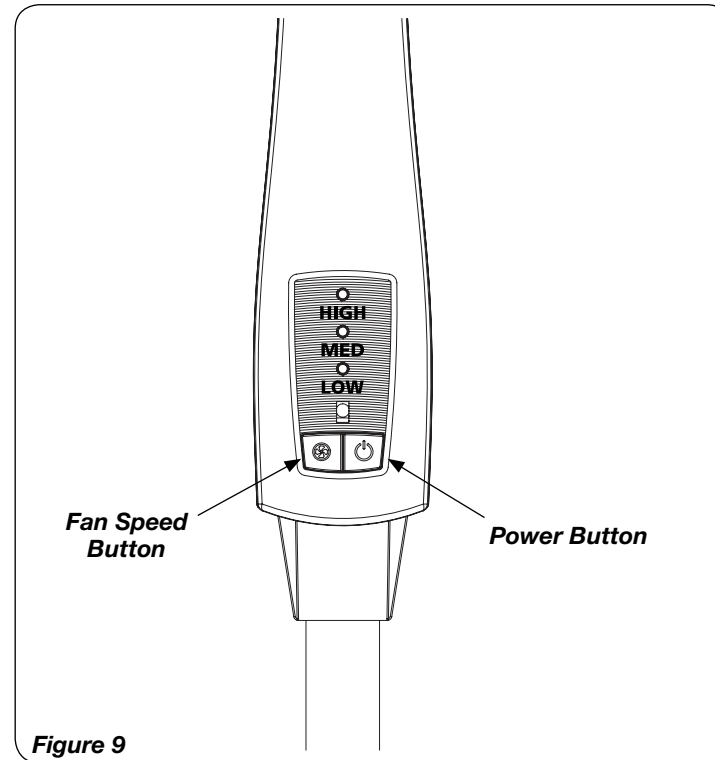
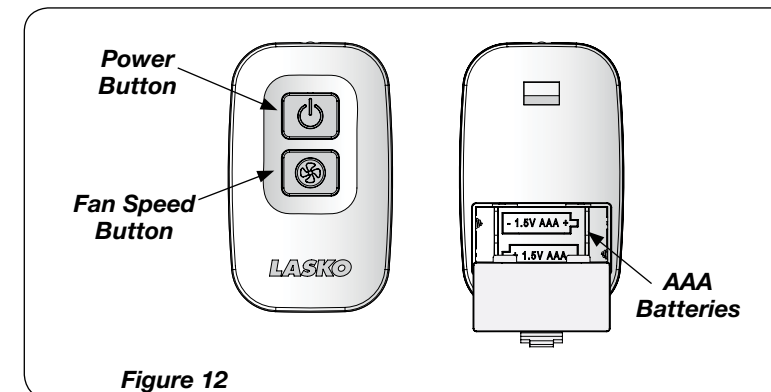

Figure 9
Figure 12
This Fan may be operated by the Manual Controls located on front of the unit (as shown in *Figure 9*) or by the Remote Control (shown in *Figure 12*).
1. Install batteries (not supplied) as shown in *Figure 12*. The battery is type “AAA”.